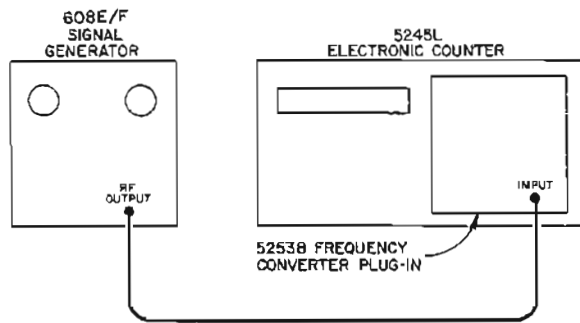

Figure 5-3. Frequency Accuracy and Resettability Test Setup
a. Connect signal generator in test setup illustrated in Figure 5-3.
- a. Connect signal generator in test setup illustrated in Figure 5-3.